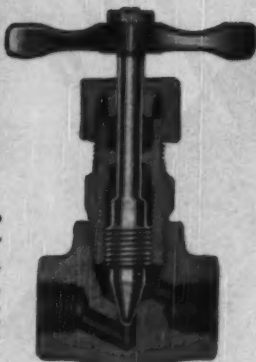

Fig. 132
**FIG. 132 SERIES**—A drop forged, instead of bar stock, steel valve for gage, meter, dead-end, instrument and other small lines, and for pumps, vents, Diesel and gas engines, etc. Long taper semi-needle type stem-disk for close regulation and tight seating. Fig. 132 series has carbon steel body with EValloy 13% chrome stem-disk. Fig. 2152 series, all 13% chromium stainless steel. Fig. 4152 series, all 18-8 stainless steel.